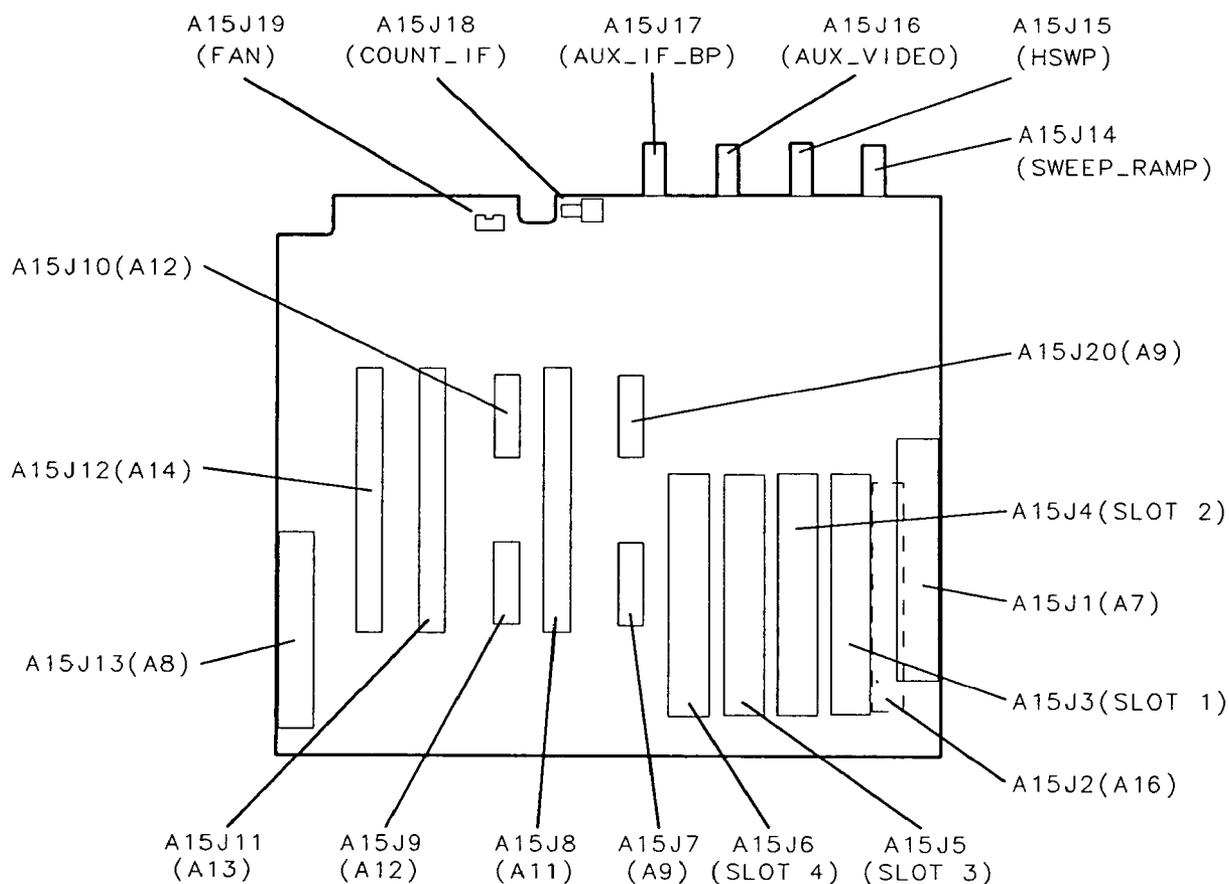

Figure 8-1. A15 Motherboard Connector Designation
- Figure 8-1, A15 Motherboard Connector Designation. Shows the location and reference designator for each connector on the motherboard.
Be sure to read the footnotes at the bottom of Figure 8-1.